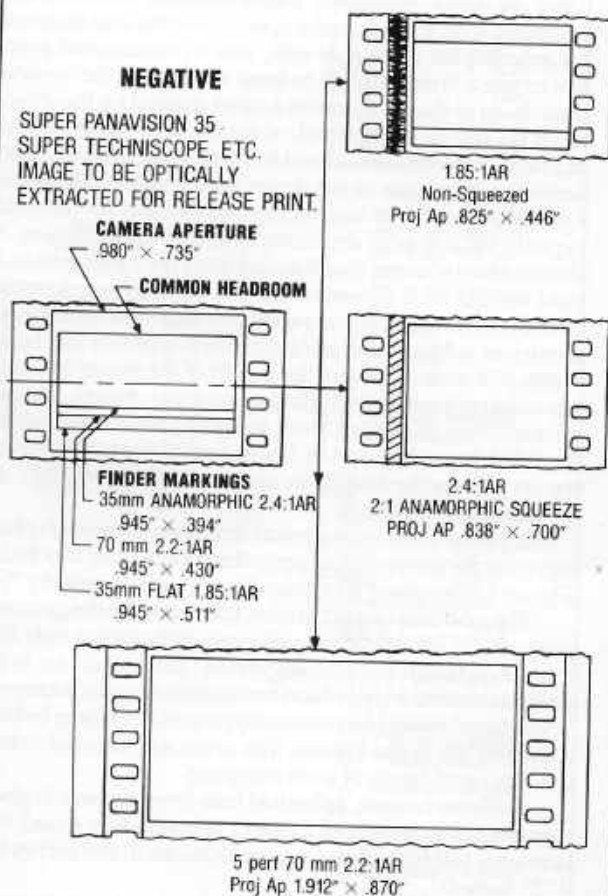

Figure 2.
A. Used for special effects duplication. No protection dimension given (image size depends on user). (Figure 2)
ration of release printing duplicate negative. Prints must be projected with an anamorphic lens. (Alternate finder markings are shown for 35mm "flat" and 70mm extraction. Note that all extractions use the same headroom. Television extraction is not fixed at this writing; alternate versions would crop sides and extend to the bottom of the camera aperture or use the same side lines and protect the area above the nominal headroom line. There have been minor variations on this system, and guidelines are under consideration for ultimate standardization of dimensions. Use of the system depends on capability and willingness of the laboratory to make the image extractions on the release printing duplicate negatives.) (Super Panavision 35 and Super Techniscope) (Figure 2) (See also "Special Systems.")
12. Proposed 35mm anamorphic projection systems using 1.5:1 squeeze and the conventional (ANSI PH22.195 Style B) anamorphic projection aperture for a 1.8:1 aspect ratio. Source camera negative would be VistaVision (Figure 8) or 35mm full aperture (Figure 2) from either of which a laboratory printing duplicate negative would be anamorphically printed; alternately, 1.5:1 anamorphic lenses would be used on standard 35mm cameras.